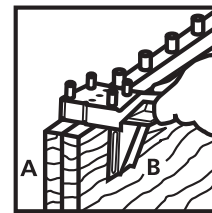

Figure 40
- Slide the proper slot in the front of the Quick Dowel Jig over a dowel pin in board A. See Figure 40.
- Drill a hole for each dowel pin. See Figure 40.